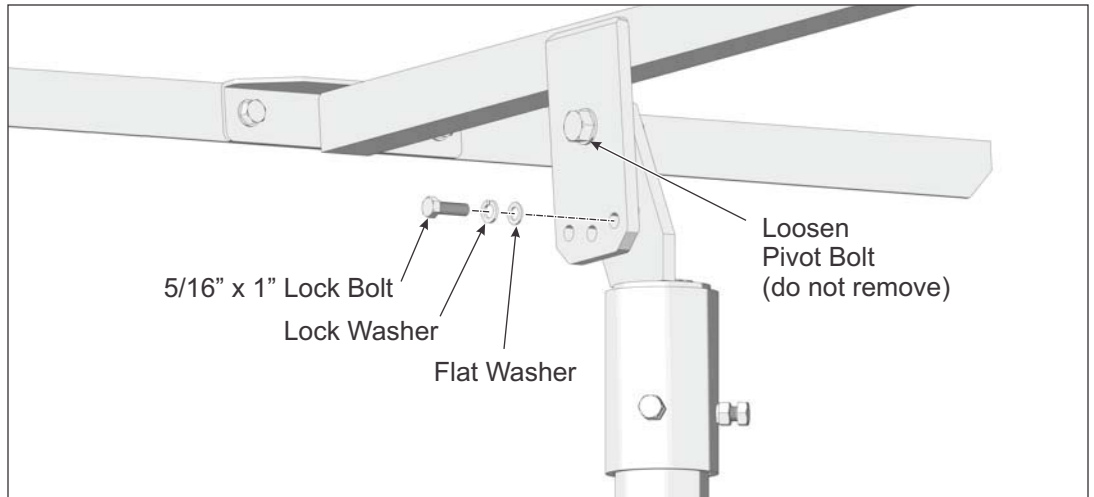

Figure 6-1: Preparing to Adjust the Tilt Angle
- A. While one person holds the south edge of rack the other loosens the Pivot Bolt and removes the 5/16" Lock Bolt from the Strongback Pivot Plate. (See Figure 6-1)